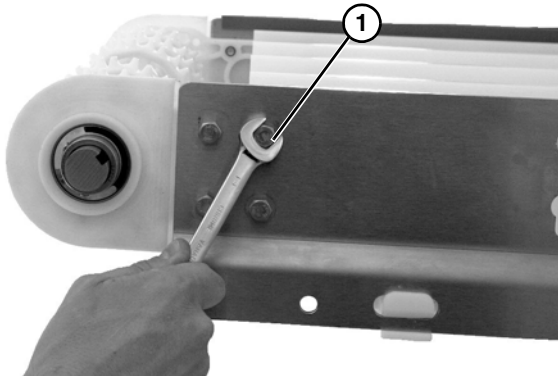

Figure 37
4. Remove the four head plate bolts (Figure 37, item 1) on both sides of the conveyor.